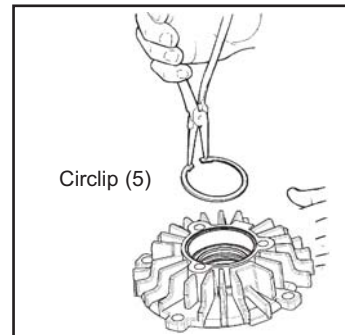

Figure 19
3. Using a circlip pliers, install the circlip (5) into the sideplate ; See figure 19.